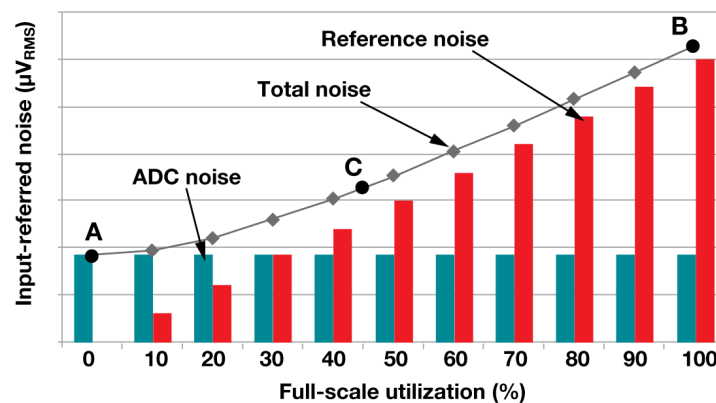

Figure 45. ADC noise, reference noise and effective resolution as a function of FSR utilization.
The amount of reference noise that enters a data-acquisition system depends on the reference source's noise performance as well as the percent utilization of the FSR. To demonstrate this reliance on percent utilization, I plotted ADC noise, reference noise and total noise as a function of the full-scale utilization (input voltage), assuming a 2.5-V reference. Figure 45 shows a plot of this relationship using the TI **ADS1261**, a 24-bit delta-sigma ADC with an integrated PGA.
- Choose a lower-noise reference.** One of the most obvious ways to reduce the level of reference noise entering a system is to choose a voltage reference with less noise. This has the effect of reducing the level of the red bars in Figure 45 and extending the useful FSR utilization limit. But as I suggested in Section 4.1, take care to match the level of reference noise to the level of ADC noise for any given input signal. For example, if you sample a 2.5-V input signal using the ADS1261, you could only use a gain of 1 V/V. In those circumstances, choosing a voltage reference with less noise than the REF6025 will likely have little effect on overall system noise, since the FSR utilization is so high in Figure 45.